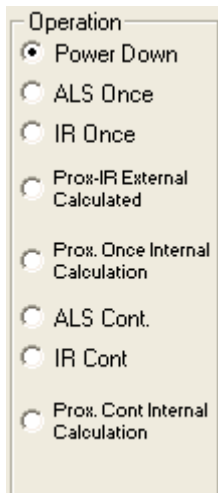

FIGURE 11.
- From the menu on the left, choose the specific “**Operation**” in which you would like to operate the IC, as shown in Figure 11. A detailed explanation is described in the data sheet (FN6691). Table 1 summarizes the different modes.